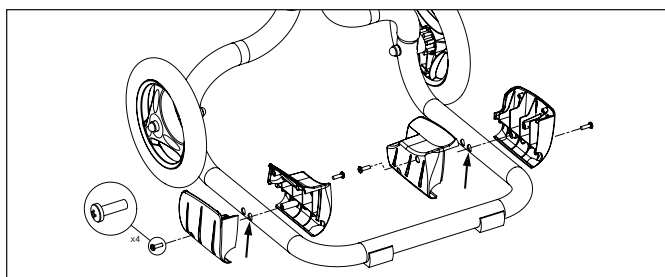

**Figure 9. Attaching Wheel Caps**
7. Place two (2) caps on the wheels as shown in figure 9.